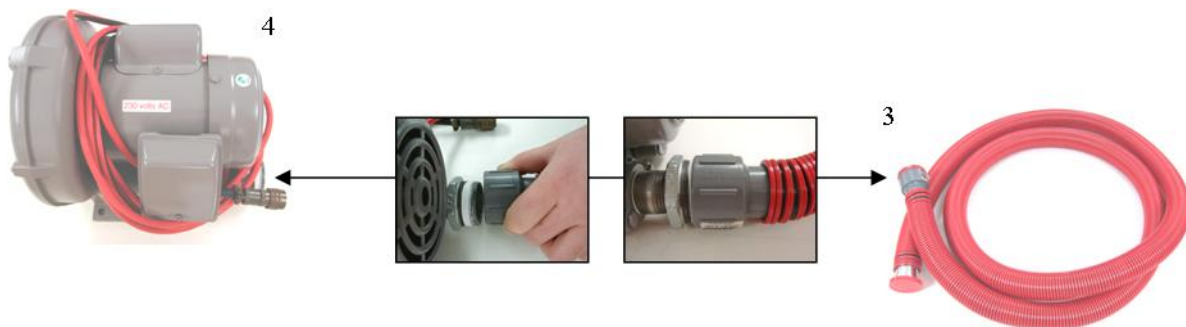

Figure 5: Connecting the Pump to the Pump Hose
2. Connect the pump hose (3) to the pump (4) (Figure 5).